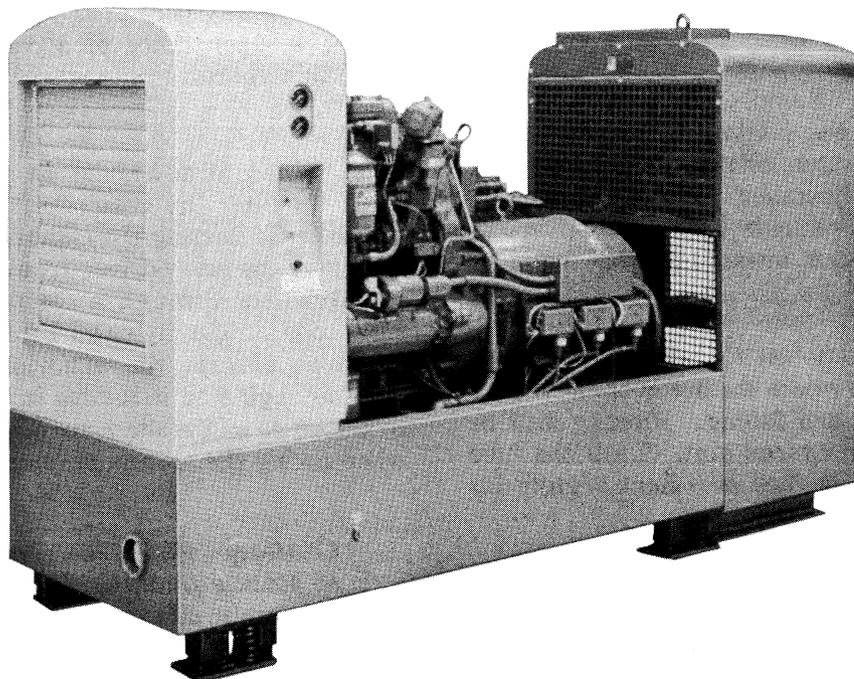

Fig. 1—Left Front View of KS-19583 Diesel Engine-Alternator
1.03 These sets are manufactured by the General Motors Corp and are rated at 30 kW for the KS-19583 set and 45 kW for the KS-19584 set and have a 0.8 lagging to 0.8 leading power factor. The sets are arranged for 208- to 240-volt, 60-Hz, 3-phase, 4-wire distribution. The engine and alternator sets are mounted on a common subbase in an inline arrangement (see Fig. 1, 2, 3, and 4). List numbers are used to identify sets as follows: